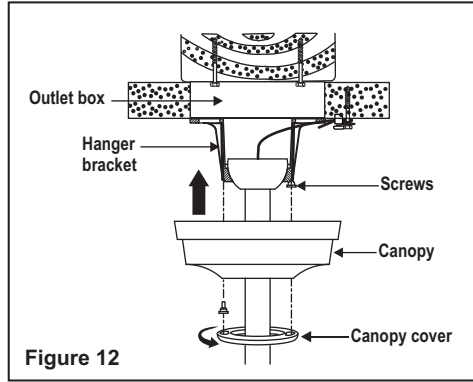

Figure 12
**Step 2.** Slide the canopy up to mounting bracket and place the key hole on the canopy over the screw on the mounting bracket, turn canopy until it locks in place at the narrow section of the key holes. (Fig. 12)